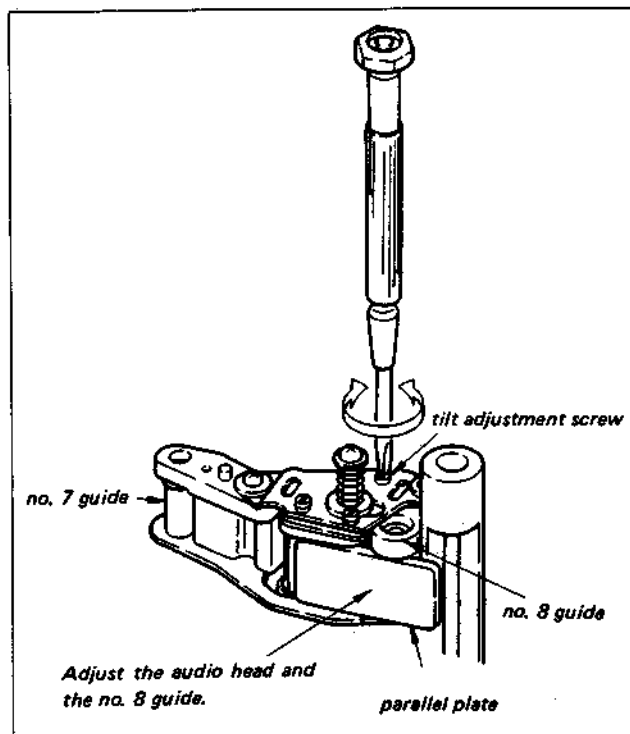

Fig. 4-9.
- 1) Set the parallel plate (SL-0657) up against the unit as shown in Fig. 4-9, and turn the tilt adjustment screw to adjust the audio head vertically.